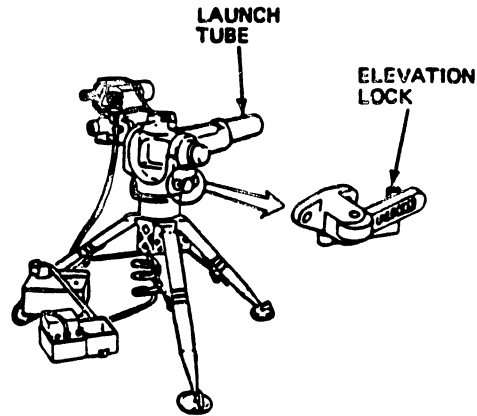

Fig 3-8. Launch tube/elevation lock.
Step 2. Turn the elevation lock on the traversing unit to the UNLOCKED position (fig 3-8). Hold the launch tube and move it up and down.